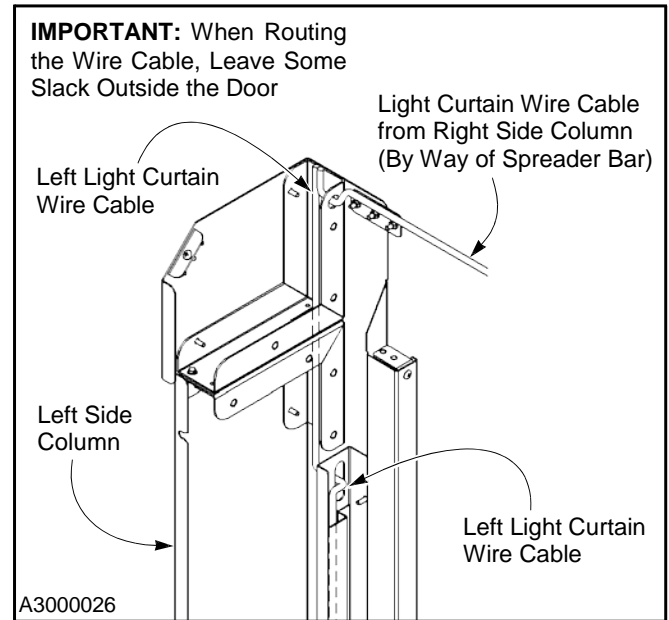

Figure 31
2. Feed the left light curtain module wire cable through the side column. Make sure to take the path detailed. (See Figure 31.)
IMPORTANT: Route the light curtain module cable away from any moving parts and provide 18 to 24 in. of slack outside the door for easier service later on. (See Figure 31.)